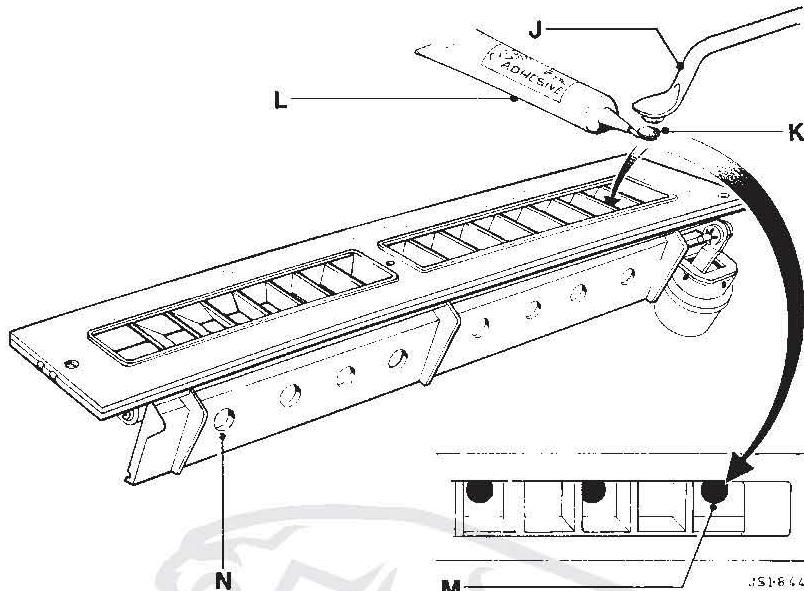

FIG 7
5. Using a suitable tacky substance with low adhesive properties, attach a small quantity to the end of the tool (Fig 7 J) and attach a plastic plug, Part No. BAC 2698, to the tool (Fig 7 K).
6. Using a suitable proprietary trim adhesive, eg Dunlop 1358, apply sparingly to the outer edge of the plug (Fig 7 L).
7. Carefully locate and position the plug into a screen flap bleed hole (Fig 7 M) and ensure the plug is fully located by applying slight pressure.
9. PLEASE NOTE that the bleed holes on both the right-hand and left-hand flap assemblies (Fig 7 N) are inaccessible when applying this service fix.